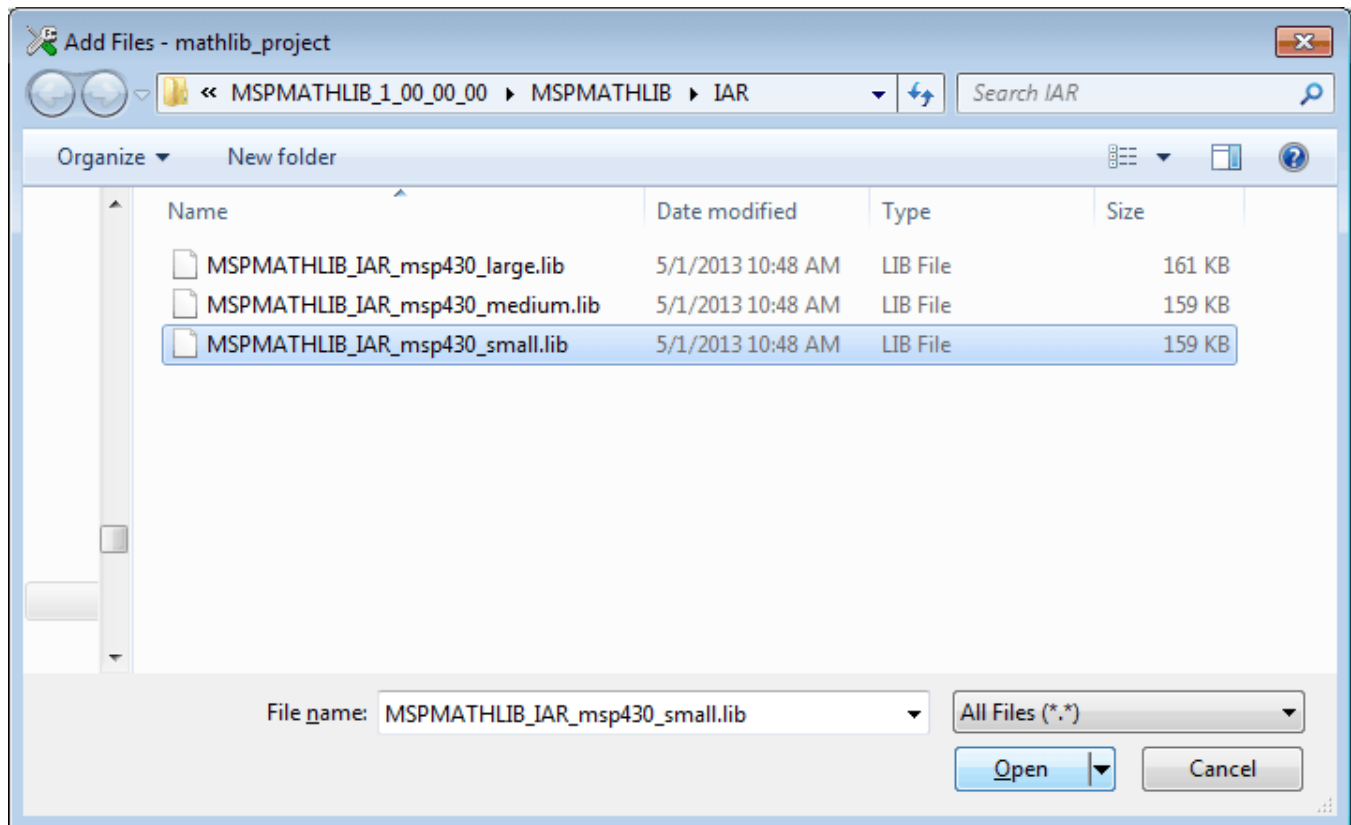

Figure 9. Select Library
5. Select All Files and then select the library that matches the data model (see Figure 9).